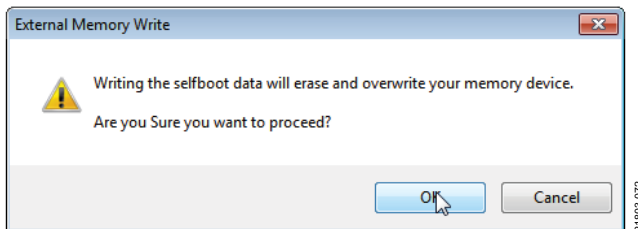

Figure 72. External Memory Erase and Overwrite Warning Window
9. A warning dialog window appears to remind the user that executing an external memory write erases and overwrites any data currently stored on the EEPROM (see Figure 72). Click **OK** to proceed.